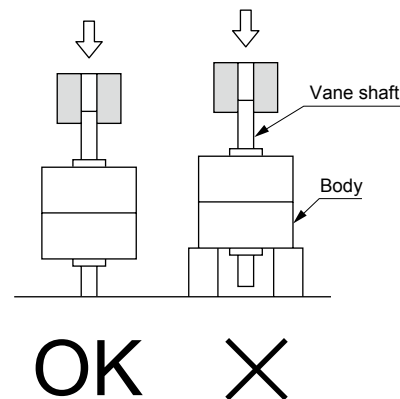

Fig. 3
■ When installing a load or jig, etc., on the rotary actuator vane shaft, check that load is not applied to the body as shown in Fig. 3.